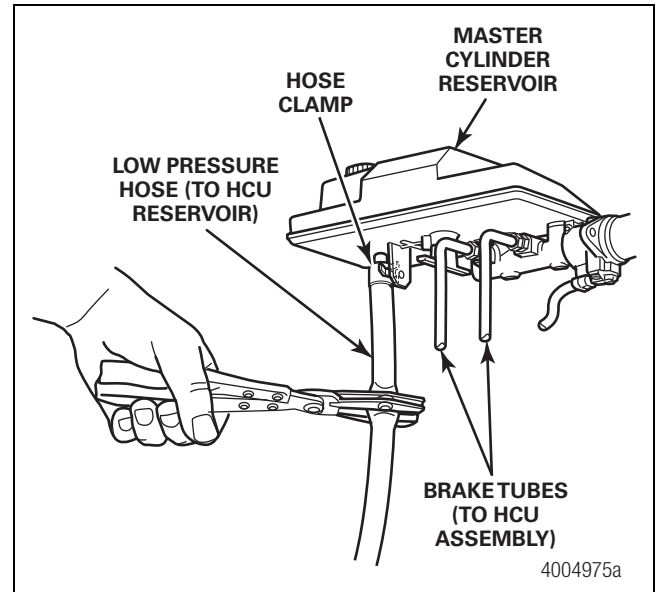

Figure 4.37
- 7. Attach a pinch clamp to the low pressure hose near the outlet of the master cylinder reservoir. Do not damage the reservoir outlet. Figure 4.37.